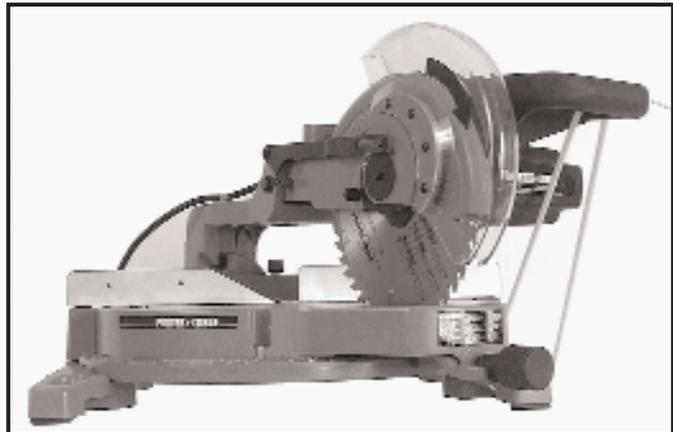

Fig. 2
4. The machine is shipped with the cuttinghead locked in the down position and the table rotated to the 45 degree right miter position, Fig. 2. To release the head and move it to the operating position see MOVING CUTTINGHEAD TO THE UP POSITION and MOVING THE TABLE TO THE 90 DEGREE CUT-OFF POSITION in this section.